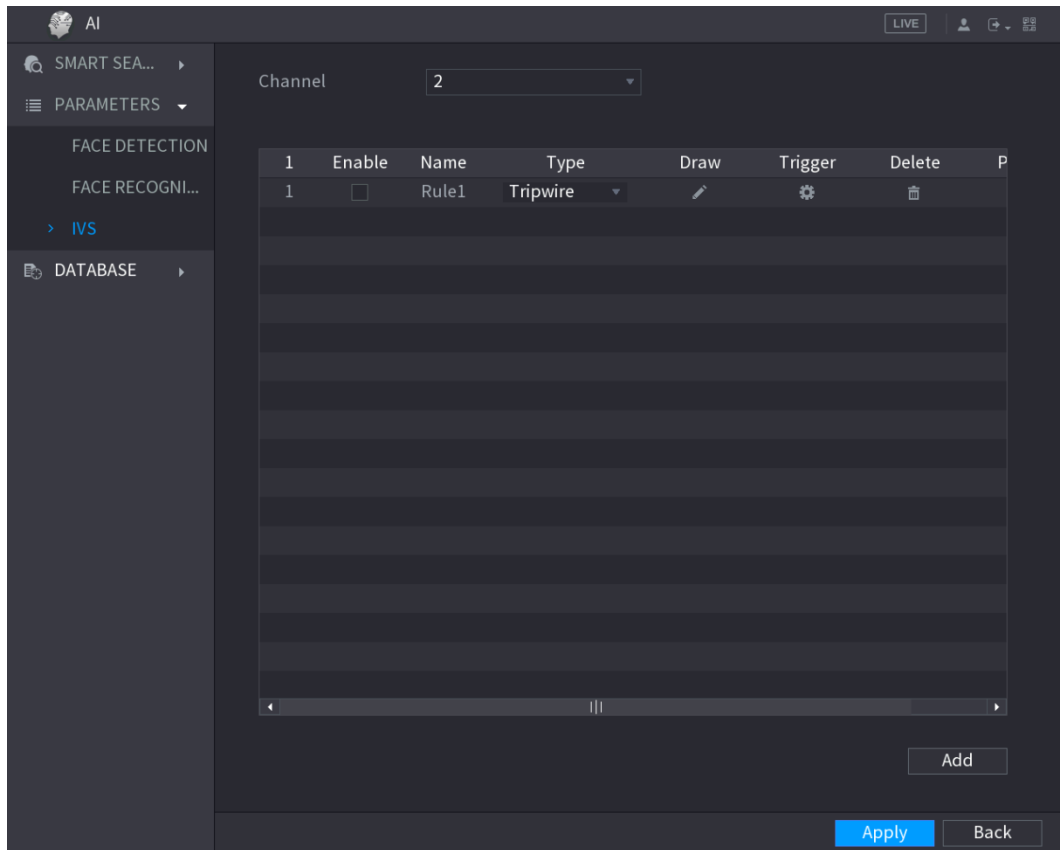

Figure 5-166
Step 1 On the rule line that you added, in the **Type** list, select **Tripwire**. See Figure 5-166.